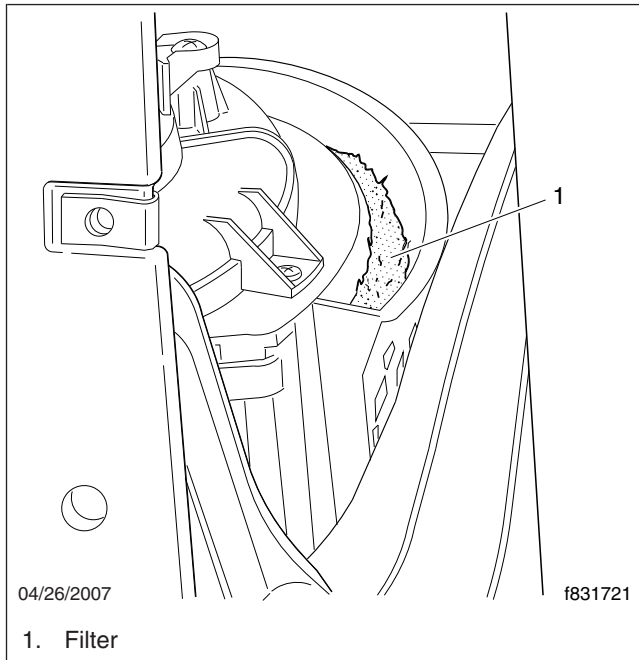
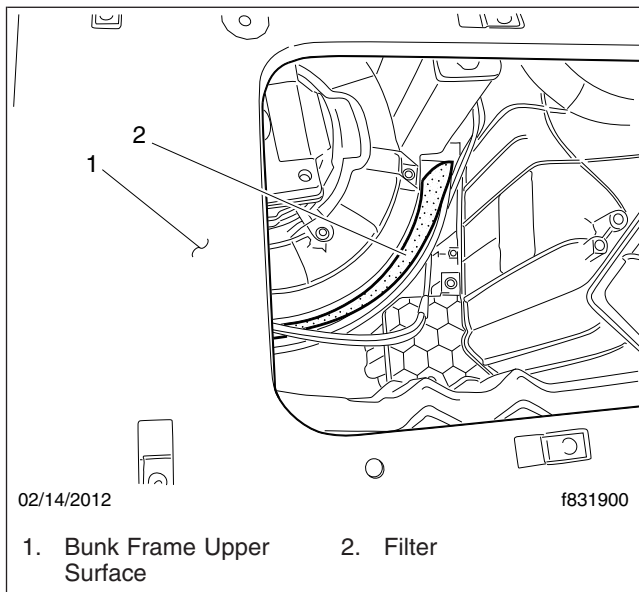

Fig. 7, Removing the Filter, 60- and 72-inch Sleepers
Fig. 8, Removing the Filter, 48-inch Sleeper
3. Lift the filter out of the slot. See **Fig. 7** for 60- and 72-inch sleepers, or **Fig. 8** for 48-inch sleepers.